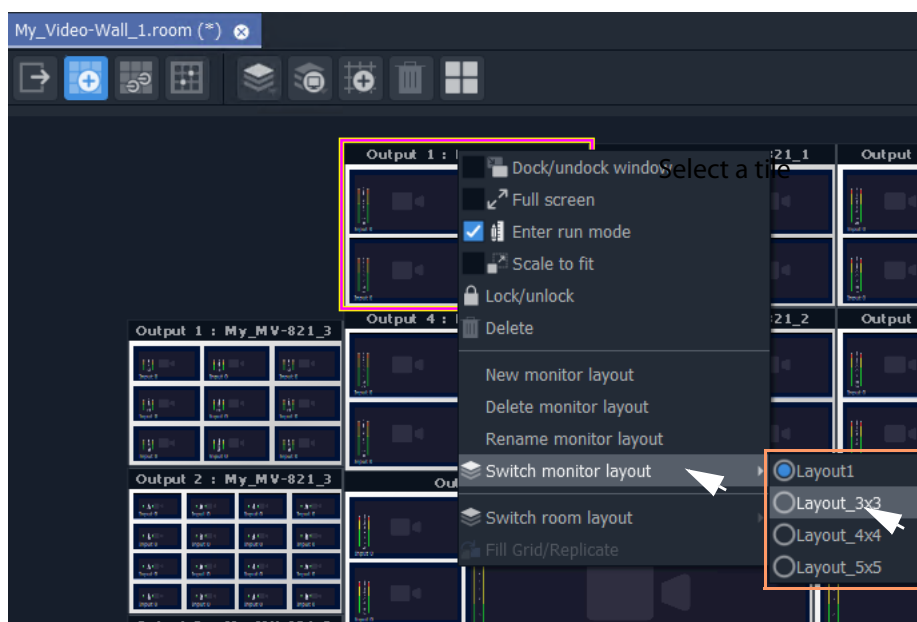

Fig. 8-50: Select a Monitor Layout
- 6 Select 'Switch Monitor Layout' and select a **Monitor Layout** from the list. (See Figure 8-50.)